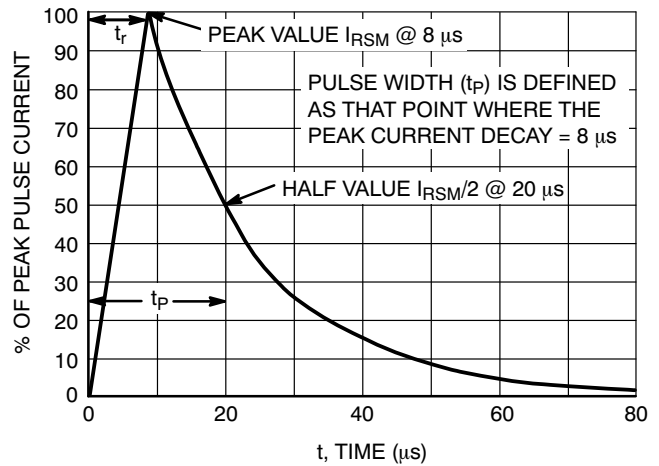

Figure 2. 8 x 20  $\mu s$  Pulse Waveform
1. Non-repetitive current pulse per Figure 2
- Surge current waveform per Figure 2